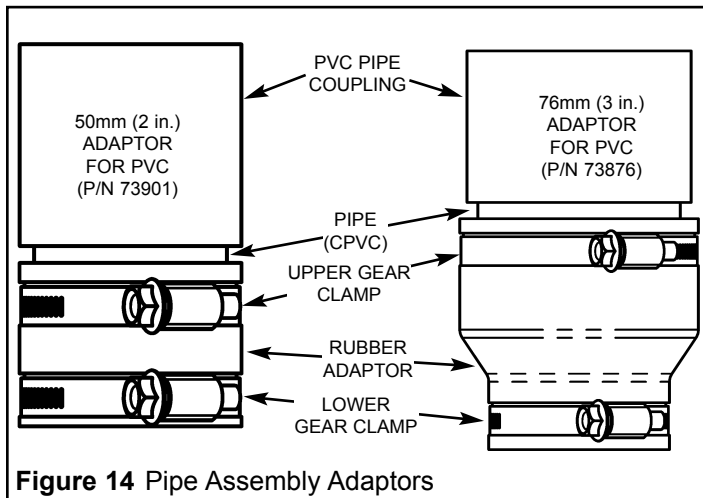

Figure 14 Pipe Assembly Adaptors
PVC vent pipe installations must use a PCV vent conversion kit as shown in Figure 14. Order PVC Vent Conversion Kit P/N 73901 for 50mm (2 in.) vent pipe installations. For 76mm (3 in.) vent pipe installations order PVC Vent Conversion Kit P/N 73876.
7. **Pipe assembly adaptor must be used with PVC venting material (see Figure 14).